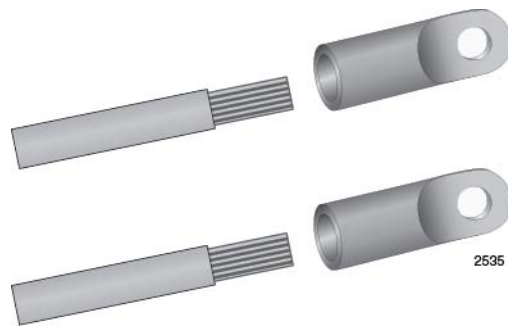

Figure 121. Attaching the Power Wires to the Straight Terminal Lugs
2. Insert the power wires into the terminals included with the power supply and use a crimping tool to secure the wires to the terminals. See Figure 121.